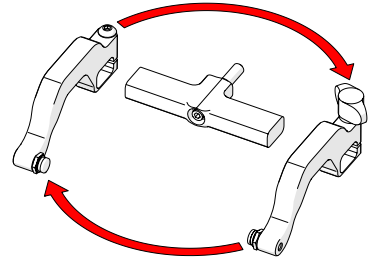

Fig. 58 - Reverse position around yoke
4. Position the removed arms to the opposite sides of the yoke (Fig. 58).